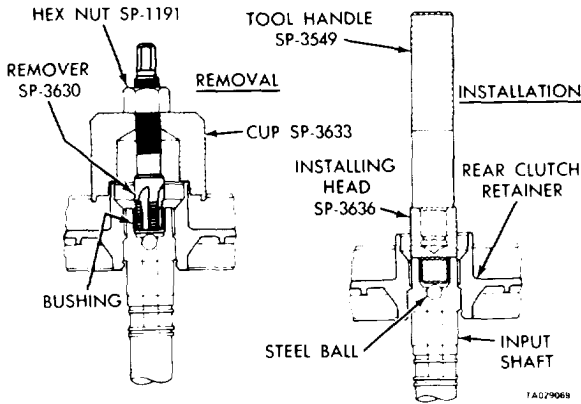

Figure 18-18. Replacing Input Shaft Bushing.
(1) Clamp the input shaft in a vise that has soft jaws. Be careful not to clamp onto the seal ring lands or bearing journals.
(2) Assemble remover tool SP-3630, cup tool SP-3633, and hex nut tool SP-1191 as shown in figure 18-18.